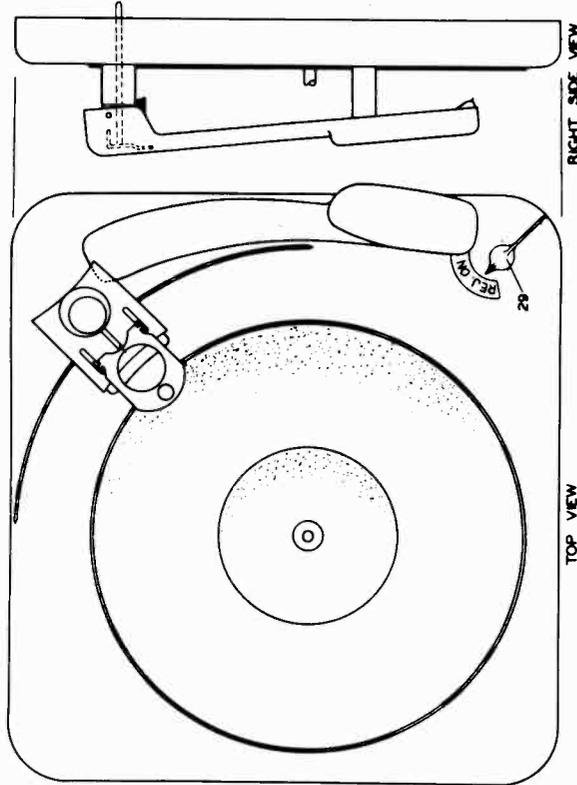

FIG. 2A
To start the change cycle, turn the control knob (29) to the Reject position as shown in Fig. 2A. Release the control knob and it will automatically return to the ON position as shown in Fig. 3A.